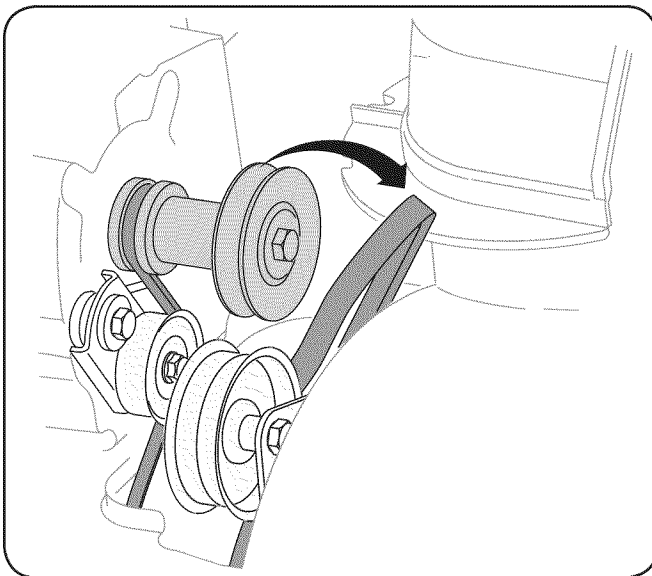

Fig. 7-2
3. Roll the auger belt off the engine pulley. See Fig. 7-2.